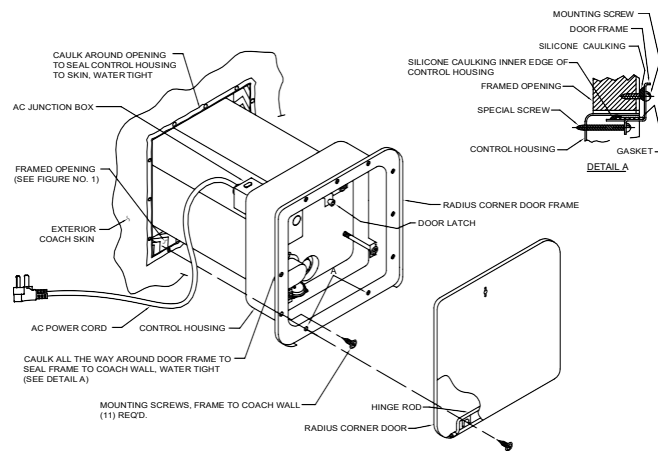

Figure 2
- Push water heater into framed opening until back side of door frame (now attached to control housing) is against the side of the coach and firmly attach with screws around the perimeter of the frame. **NOTE:** The two (2) holes in bottom of frame identified as "A" in Figure 2 are also used to mount door hinge to the frame.
- Refer to Figure 2 for location of A.C. Junction box.